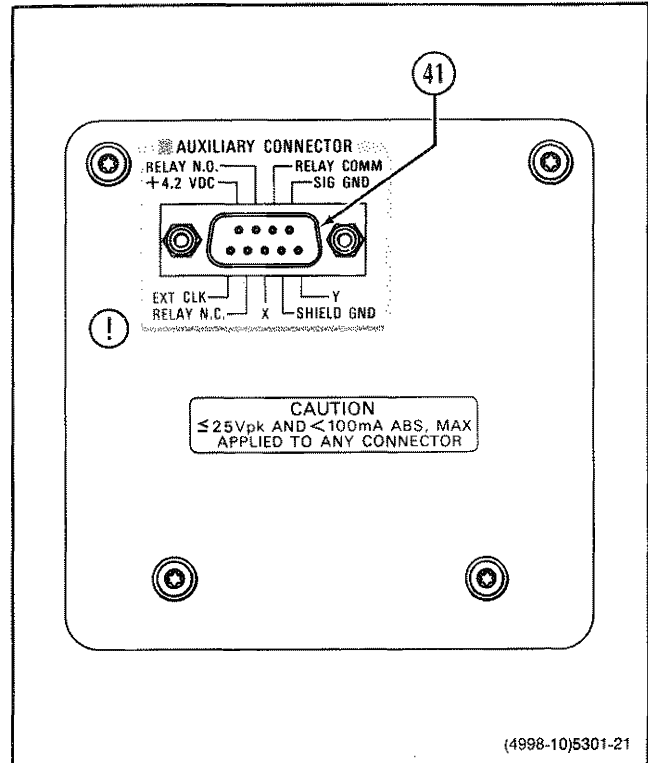

Figure 3-7. Left Side Panel.
The standard side panel includes one AUXILIARY CONNECTOR. Refer to Figure 3-7 for the location of item 41.